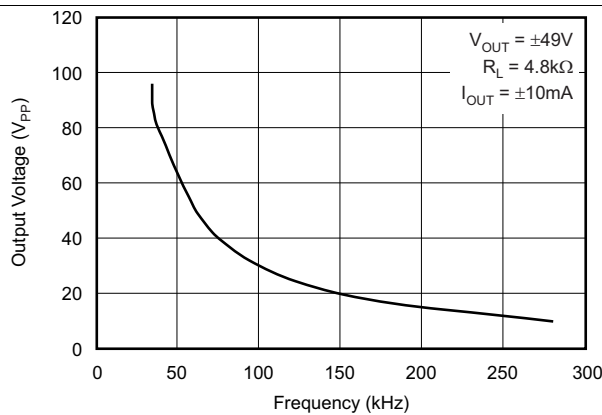

Figure 11. Maximum Output Voltage vs Frequency
(4) See Typical Characteristics curves.
(5) See typical characteristic curve, *Maximum Output Voltage vs Frequency* (Figure 11).
(6) See the Feature Description section, Settling Time.